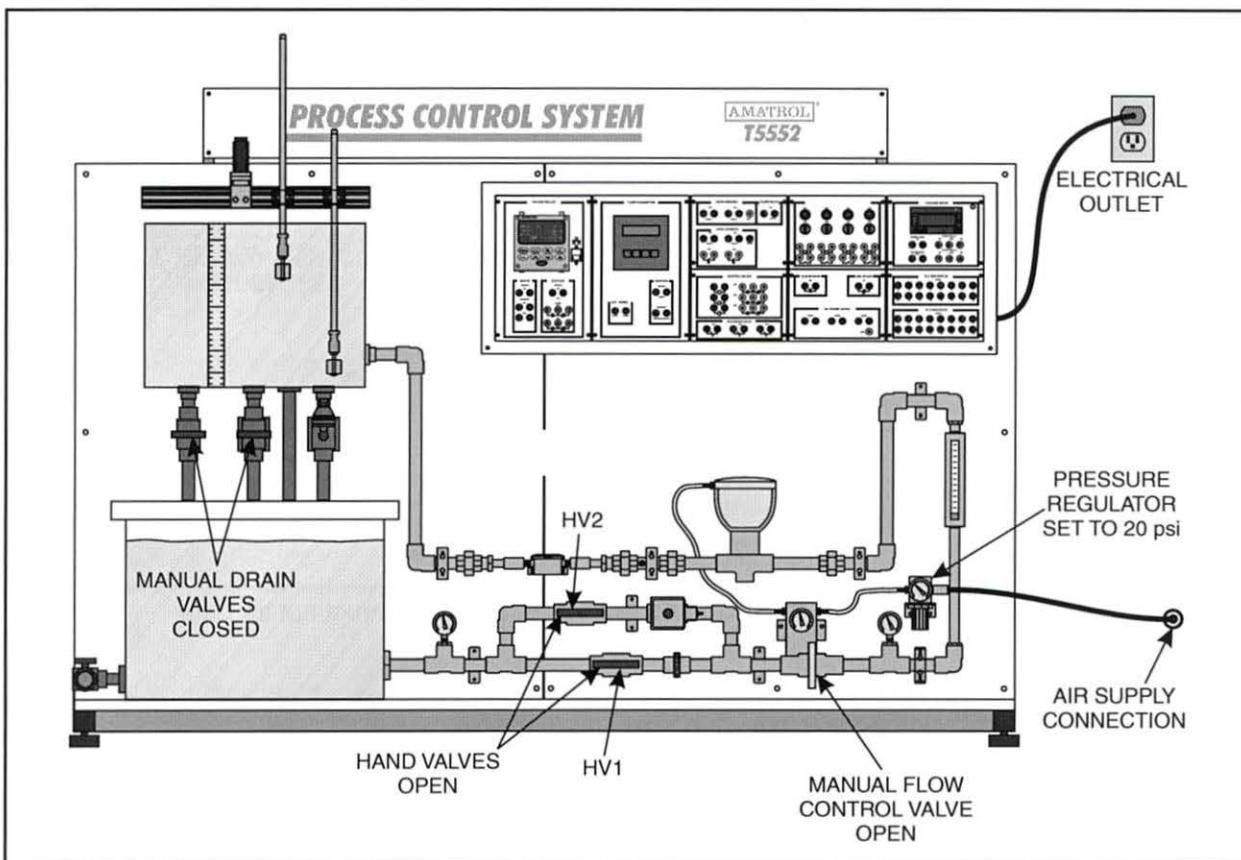

Figure 85. T5552 Setup
- 2. Perform the following substeps to set up the T5552, as shown in figure 85.